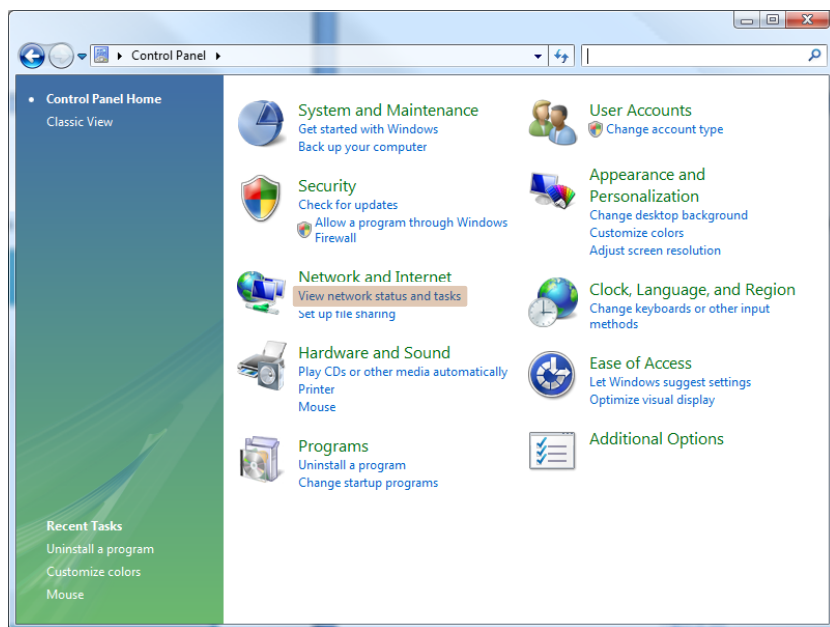

Figure 38
6. Click **View Network Status and Tasks** from the **Network and Internet** section (see highlighted box in Figure 38 below).